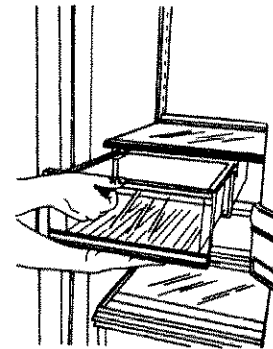

Figure 18
- d. Lift drawer up slightly to release from notches in grooves and pull drawer free. See Figure 18.